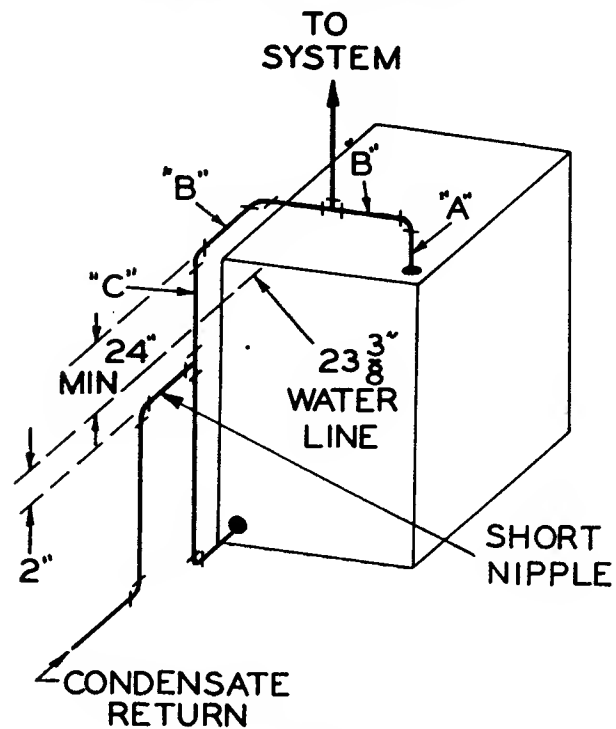

Figure 2
Figure 2 and the accompanying chart shows the recommended piping connections and minimum recommended pipe sizes for P-35 steam boilers. The supply and return piping is not furnished with the boiler but should be installed as illustrated. Controls (steam safety valve, low water cut-off, gauge glass, etc.) are not shown on the piping diagram in order to insure clarity of the steam piping.
1. Connect the steam supply riser, header, and equalizer around the boiler as shown in Figure 2. To insure proper performance, the bottom of the supply header must be at least 24 inches above the boiler water line.
a. Connect the system supply piping to the header as shown in Figure 2.